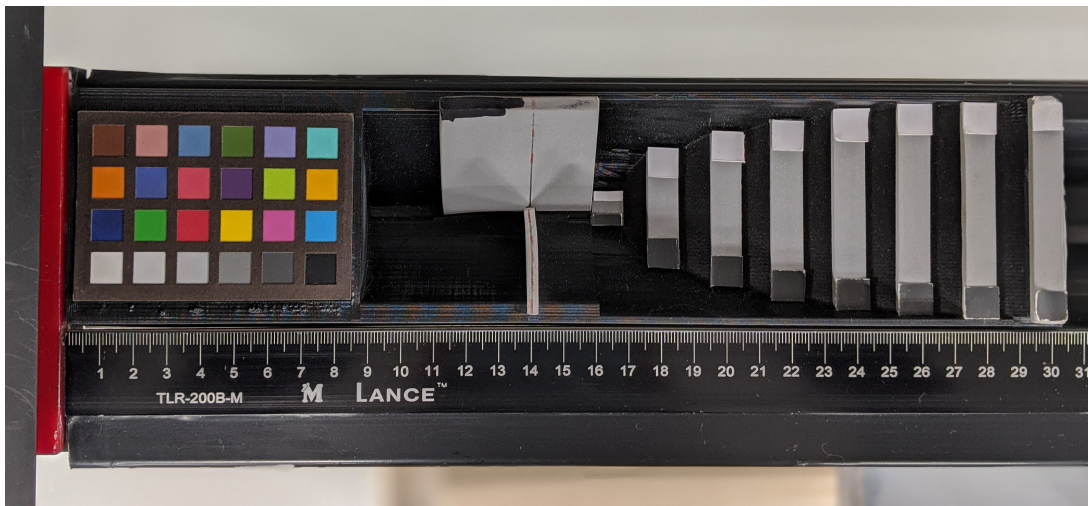

Figure 28. Color standard in track in correct orientation.
1. Place the 3D calibration standard on track as shown (Figure 28). Be sure to use the XRite Color checker 2019. The color squares must be oriented as pictured below, butted against the red reflection bar.